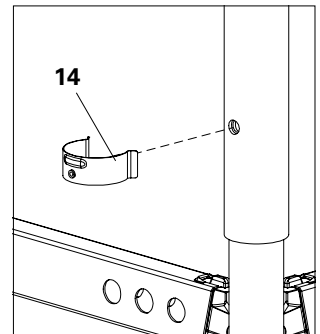

Fig. B1.03d
1. Insert standards (**6**) and connect them tightly using pins (**14**). (Fig. B1.03d)